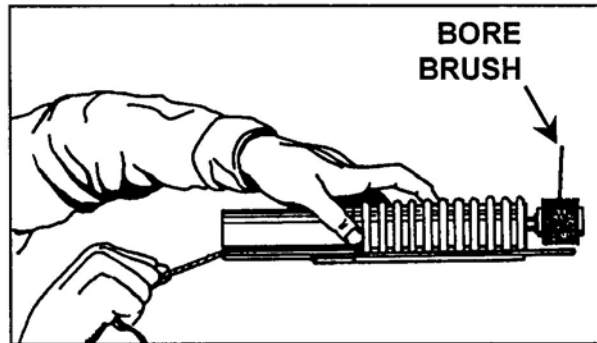

Figure 6. Cleaning the M203 barrel.
- a. Bore. Attach a clean, dry rag to the thong and thoroughly moisten the rag with CLP. Pull the rag through the bore several times. Attach the bore brush to the thong, pull it through the bore several times, and follow this with more rags moistened with CLP, if needed (Figure 6). Pull dry rags through the bore and inspect each rag as it is removed. The bore is clean when a dry rag is removed unfouled. Pull a rag lightly moistened with CLP through the bore to leave a light coat of lubricant inside the barrel.